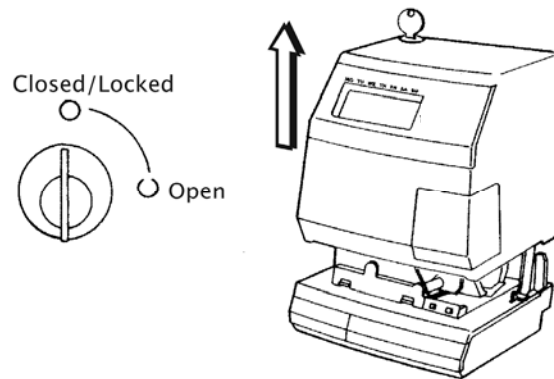

Figure 2-2. Auto-Sync Time Clock Cover Removal.
2. Insert the key, turn the key clockwise, and remove the upper cover of the Auto-Sync Clock (see *Figure 2-2*).
- Replace the upper cover of the Auto-Sync Time Clock (see *Figure 2-2*).
2. Insert the key, turn the key clockwise, and remove the upper cover of the Auto-Sync Time Clock (see *Figure 2-2*).
15. Insert and tighten the two (2) top plate side retaining screws (one on each side).
16. Replace the upper cover of the Auto-Sync Time Clock (see *Figure 2-2*).